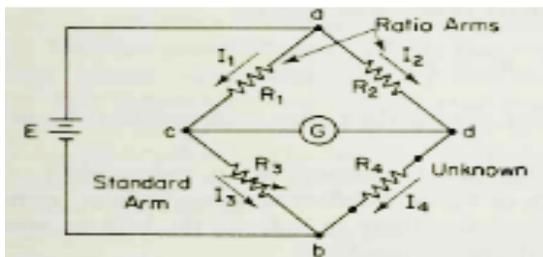

Fig.5-2 Schematic diagram of the Wheatstone bridge circuit.
-Wheatstone Bridge: the circuit diagram of the Wheatstone bridge is shown in Fig.5-2.
Q1: Determine the value of the unknown resistor R_x in Fig.5-2 if $R_1 = 16k\Omega$, $R_2 = 12k\Omega$ and $R_3 = 32k\Omega$, assuming the bridge is at balance.
Q2: If the resistors of the bridge shown in Fig.5-2 are as follows: $R_1 = 1k\Omega$, $R_2 = 1.6k\Omega$, $R_3 = 3.5k\Omega$ and $R_4 = 7.5k\Omega$. Is the bridge balance? If not then calculate the current through the galvanometer. ($E = 10V$ and $R_m = 200\Omega$)